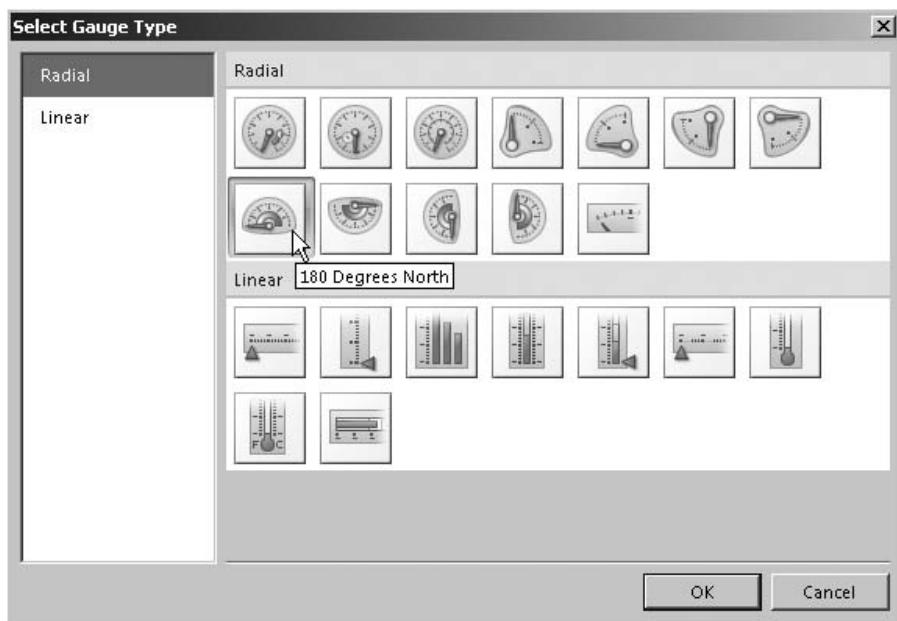

Figure 16-63 The Select Gauge Type dialog box
54. Select the 180 Degrees North Radial gauge type, as shown in Figure 16-63.